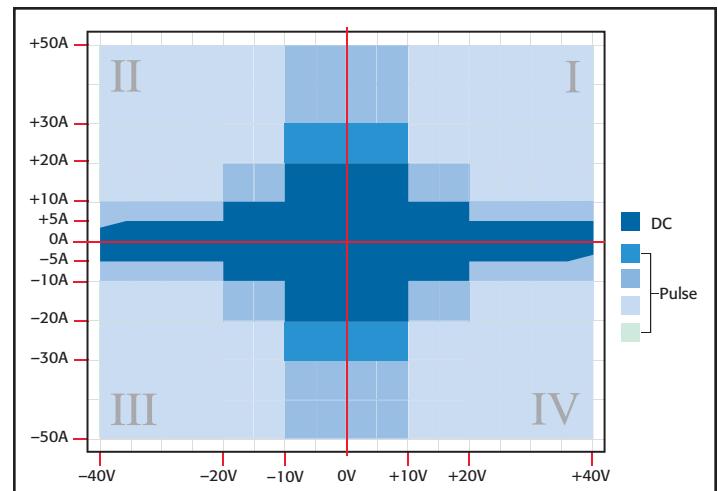

Figure 3: Power envelope for a single Model 2651A.
3. Use the same regions of the power envelope (*Figure 3*) for both SMUs.
Both SMUs should be configured to operate in the same region of the power envelope (see *Figure 3*). In order for one SMU to sink all the current of the other SMU, the sinking SMU must be operating in an equivalent region of the power envelope as the sourcing SMU.
When configured as a current source, the region of the power envelope in which the SMU is operating is determined by the source current range and the voltage limit value. When combining SMUs in parallel, each SMU should be set to the same source current range so the final determining factor for the region is the voltage limit. As can be seen in *Figure 3*, the Model 2651A has three ranges of voltage limit values that determine the operating region: $>0V$ to $\leq 10V$, $>10V$ to $\leq 20V$, and $>20V$ to $\leq 40V$. For example, if one SMU's voltage limit is set to 20V, then the other SMU's voltage limit should be set to a value that is less than 20V and greater than 10V in order to keep both SMUs in the same operating region.